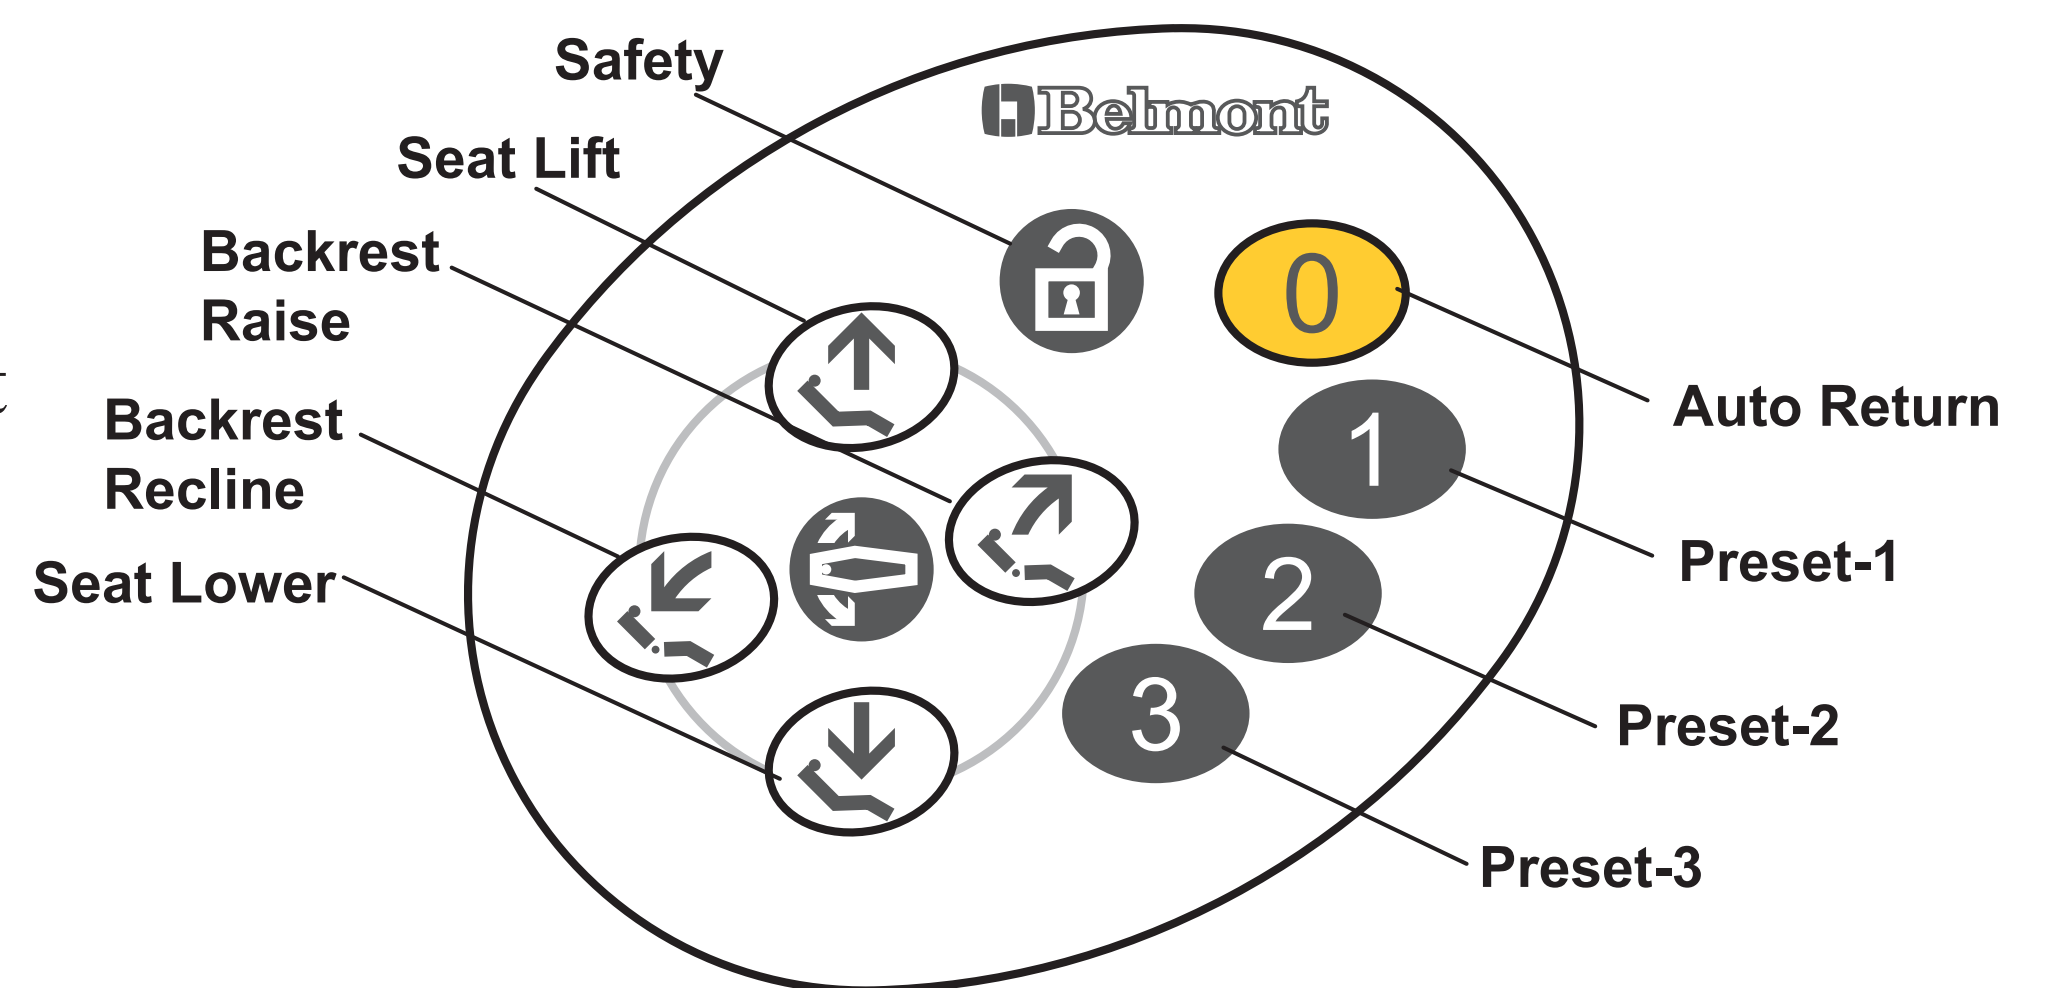

Fig.4-1 Tachpad Control Panel (Right Side)
(1) Preset position Adjustment (Fig.4-1)